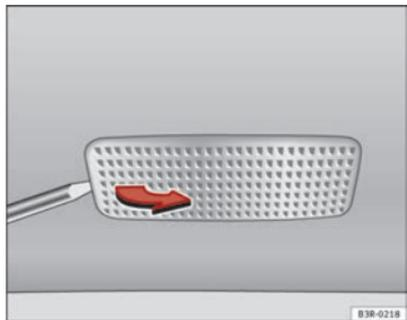

Fig. 228 Removing sun visor light
- Remove the bulb carefully, using the flat part of a screwdriver ⇒ Fig. 228.